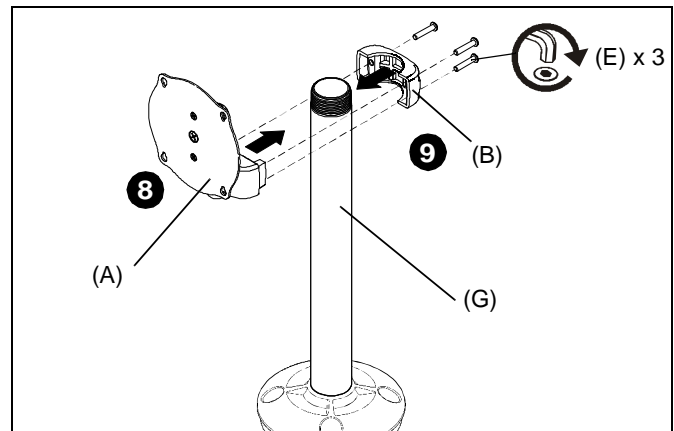

Figure 3
7. Using a hex wrench, tighten set screw (D) to secure mounting post (G) to base (C).
8. Orient front clamp (A) so that display mounting plate is facing approximate desired location. (See Figure 3)
9. Align front and rear pole clamps and loosely secure to one another using three button head cap screws (P). (See Figure 3)